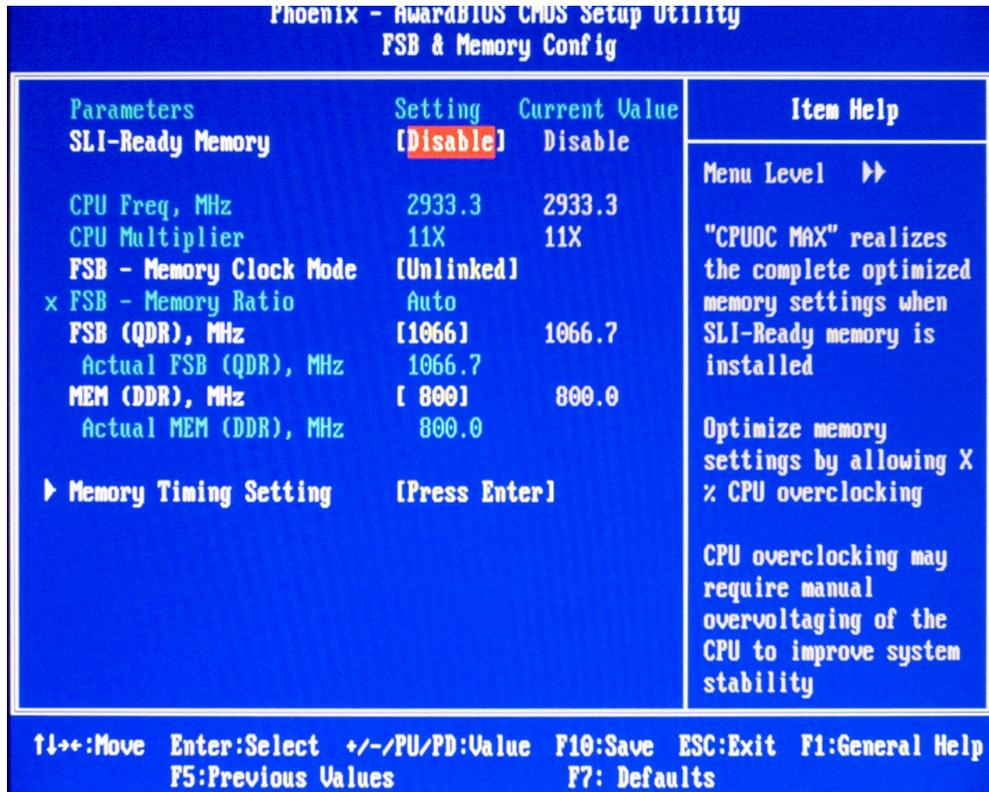

Figure 7. Disable SLI-Ready Memory
3. Make sure SLI-Ready Memory is set to Disable as shown in Figure 7.
3. Make sure **SLI-Ready Memory** is set to Disable as shown in Figure 7.